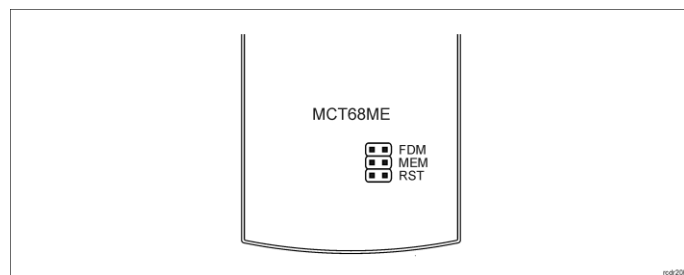

Fig. 2 Service contacts
2. Place jumper on MEM contacts (fig. 2)
2. Place jumper on FDM contacts (fig. 2).